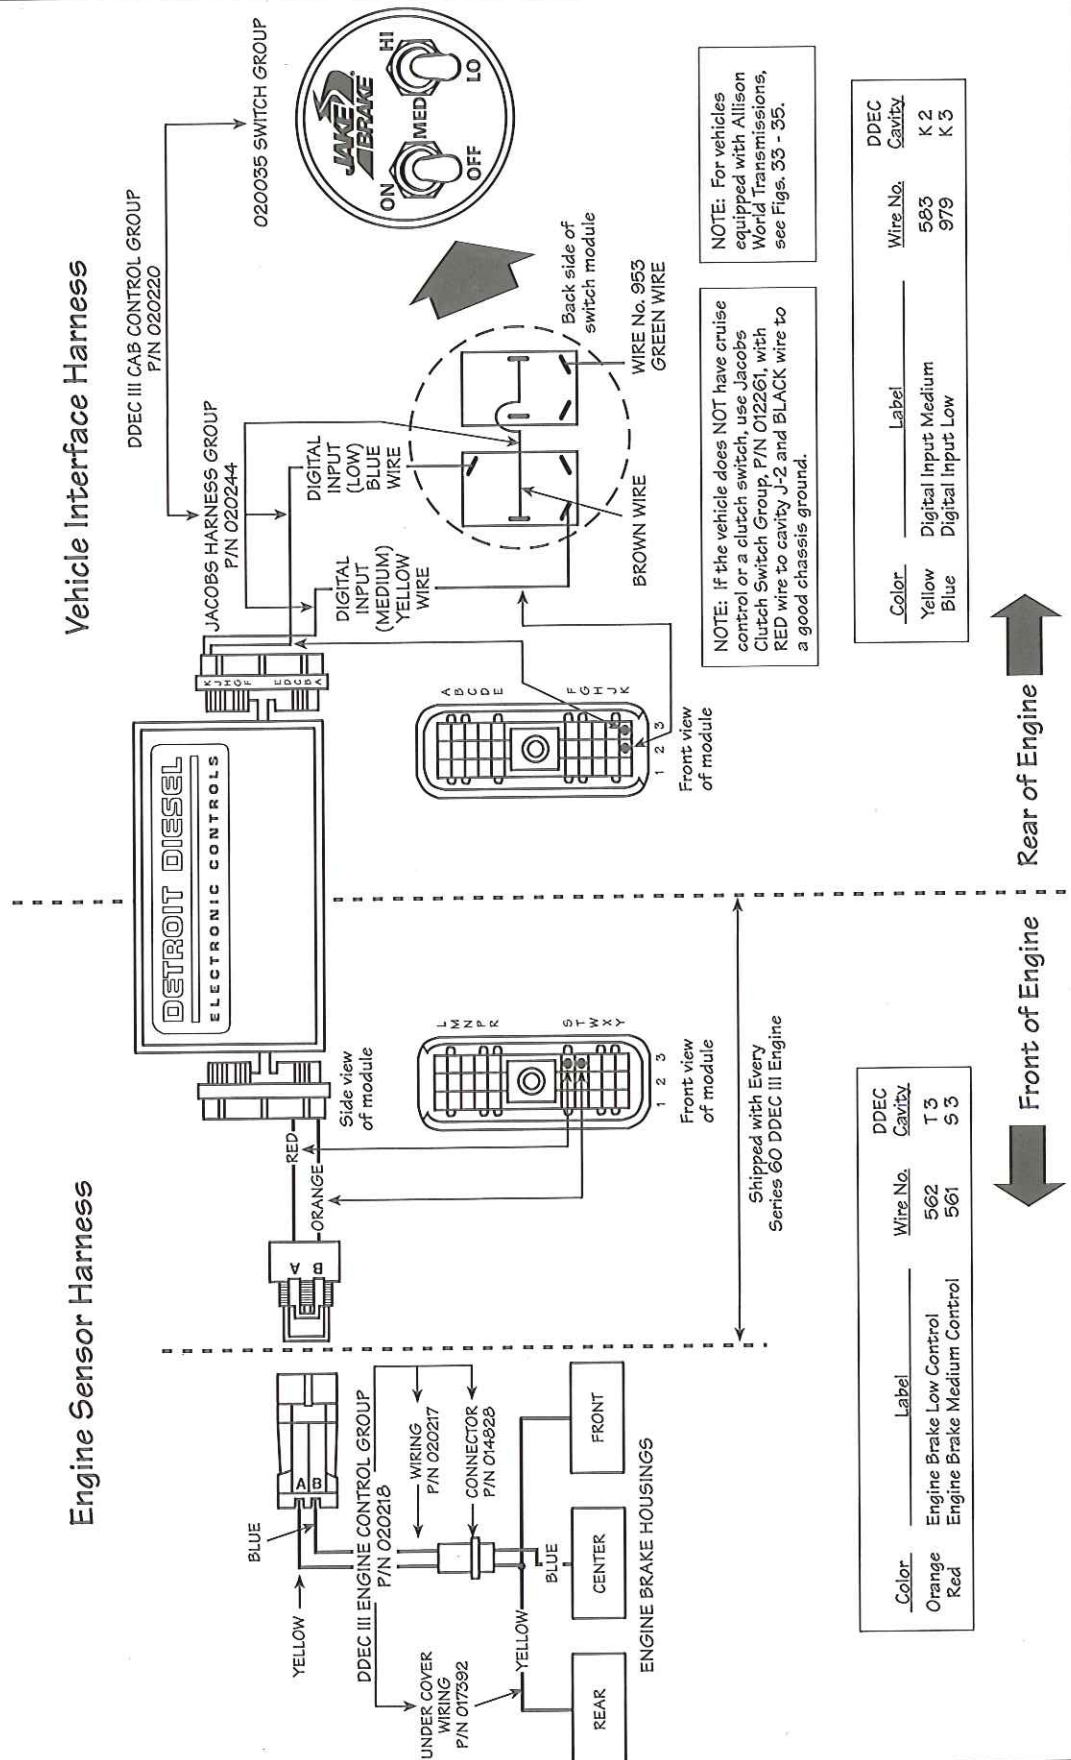

FIG. 32
3. Attach the flag connectors (yellow, blue and green wires) to the switch terminals on the switch group, P/N 020035, as shown in the wiring diagram (Fig. 32, page 17). Note on the wiring diagram that the brown wire is used between terminals on the switch group, P/N 020035.
Refer to the wiring diagram, Fig. 32, for the following electrical connections.